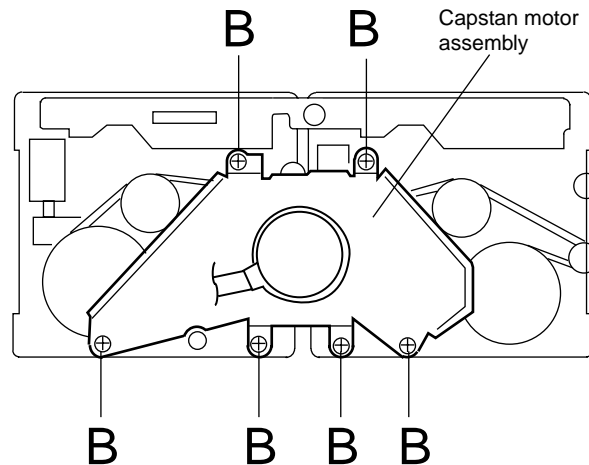

Fig.5
(See Fig.5 to 7)
- 1.Remove the six screws "B" retaining capstan motor assembly (See Fig. 5).